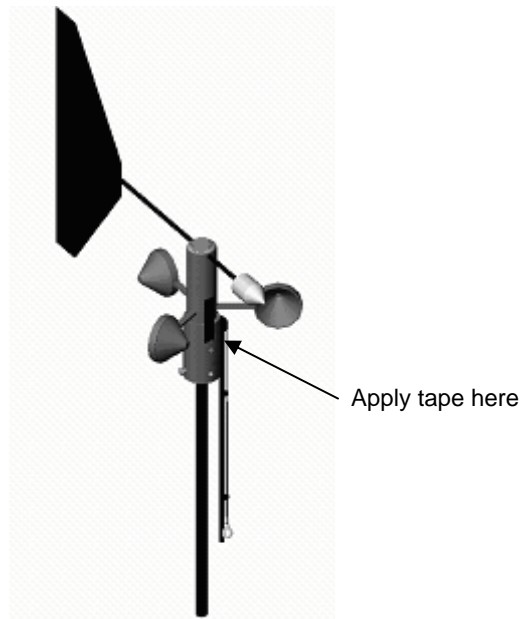

Figure 4: Aligning Wind Vane
2. Secure the base and vane shaft with a piece of tape so that the vane cannot rotate (see Figure 4).